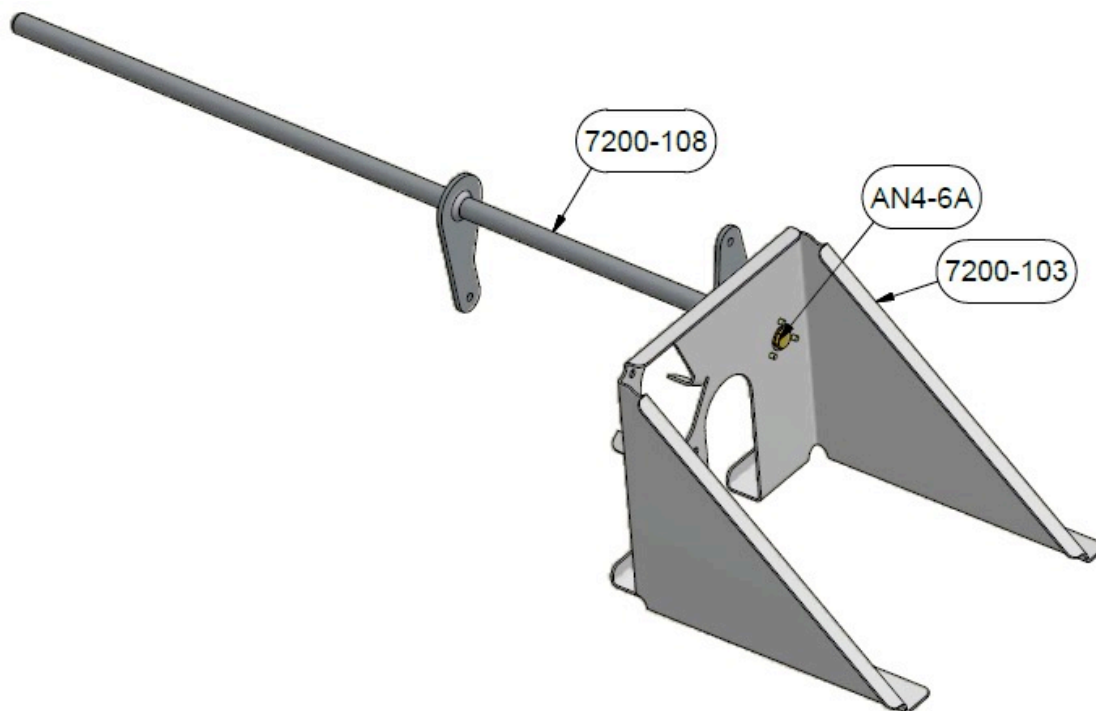

Figure 2-4
- 1.6. Secure the PA-32 bellcrank (P/N 7200-108) to the PA-28 pitch bracket assembly (P/N 7200-103) with an AN4-6A as shown in Figure 2-4. Note that the end of the bellcrank connected to the pitch bracket assembly has an